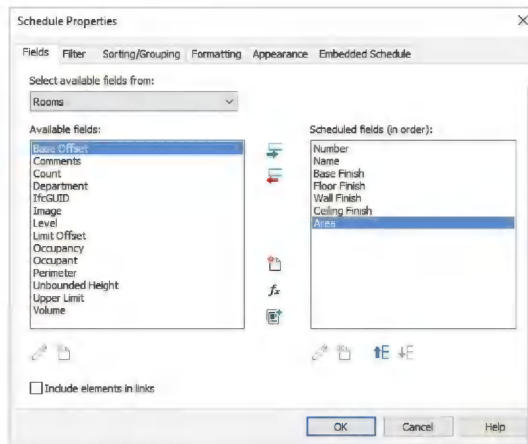

FIGURE 12-3.2
4. In the **Fields** tab of the *Schedule Properties* dialog, add the following fields to be scheduled (Figure 12-3.2):